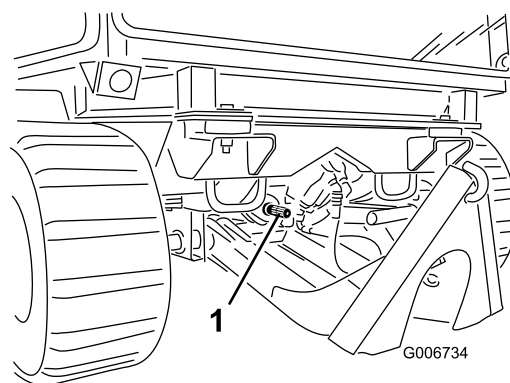

Figure 19
6. If the attachment is powered by the PTO, extend the attachment PTO shaft and insert it onto the machine PTO shaft (Figure 19).